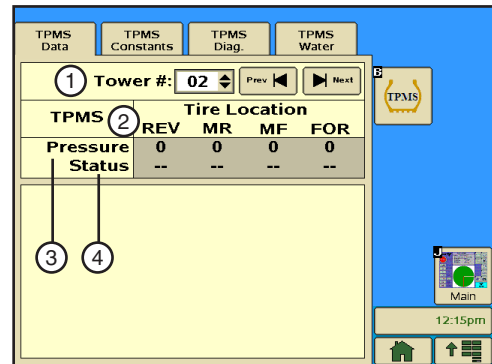

Figure 62-2 1. Tower # Field
1. Push **Options**, **TPMS**, **TPMS Data** for the Tire Pressure Data screen. Refer to Figure 62-2.